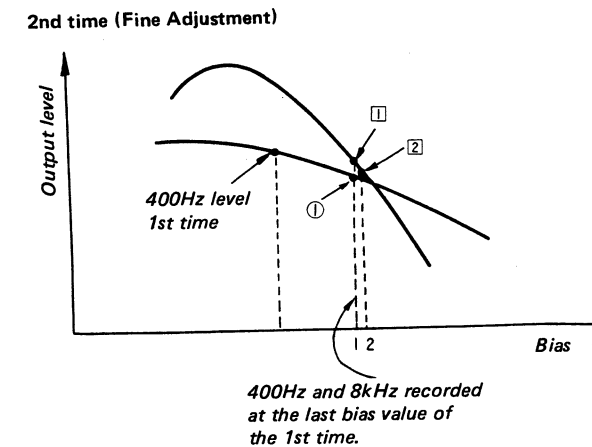

Fig. 18-2
5. Next, 8kHz is recorded and the playback level at this time is detected, and compared with 400Hz. If 8kHz level is higher, the bias is deepened, and if it is lower, it is made shallow, to adjust so that 400Hz and 8kHz levels are equal. (See Fig. 18-2, Fine Adjustment)